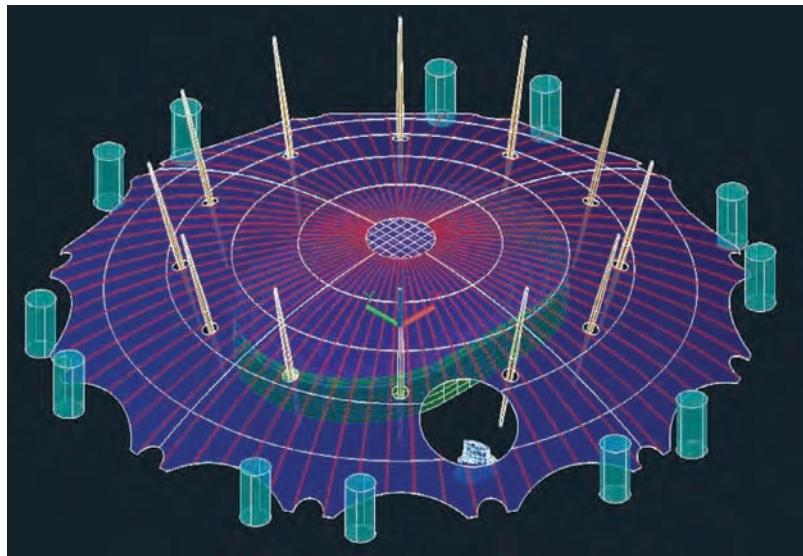

FIGURE 16.7 The X-ray visual style lets you see through solid objects.
8. Choose X-ray from the in-canvas menu that appears. Figure 16.7 shows the result: a transparent, shaded view with edges.